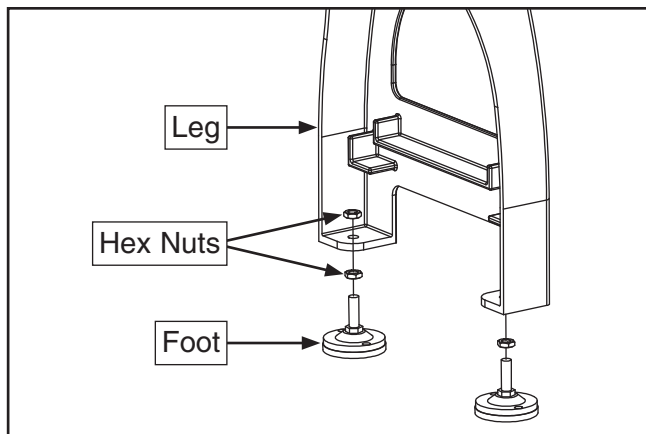

Figure 15. Machine feet positioned for installation.
6. Remove top hex nut from feet, insert feet in mounting holes in leg (see **Figure 15**), then thread top hex nut back on. Do not tighten hex nuts yet.